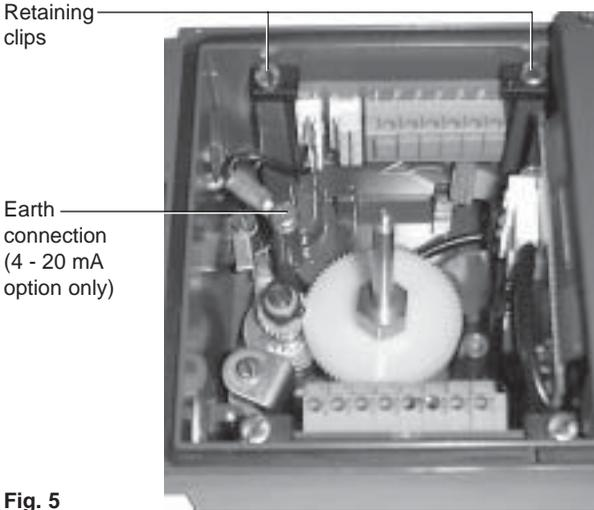

**Fig. 4**
**4.2.4** Locate the edge of the options PCB in the two cast-in location lugs at the base of the SP2 case (refer to Figure 4).